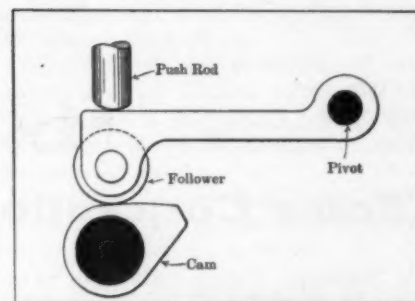

Fig. 4—Showing the wearing points of the valve lifter mechanism
(1) The wear will be found to occur on the cams at the point which first strikes the follower. This point is shown to be just about to be reached in Fig. 4. The roller follower will often wear, as will the push rod bushing, end of the push rod, pivot bushing and the top of the push rod. Wear in the push rod can generally be taken up by special means generally fitted to make these adjustments.
(2) A cam shaft that is lubricated by splash will receive plenty of oil to thoroughly lubricate it.